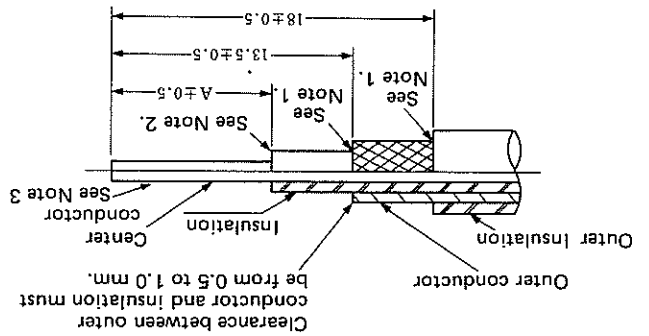

Fig. 2
(1) Strip the outer insulation to 18 ± 0.5 mm from the cable end shown in Figure 2. Cut the outer conductor of the cable to 13.5 ± 0.5 mm. Cut the insulation by dimension "A", specified in the table below.
(2) After preparing the cable per #1, wipe the center conductor with an alcohol-dampened cloth to remove any polyethylene residue from the surface of the center conductor.